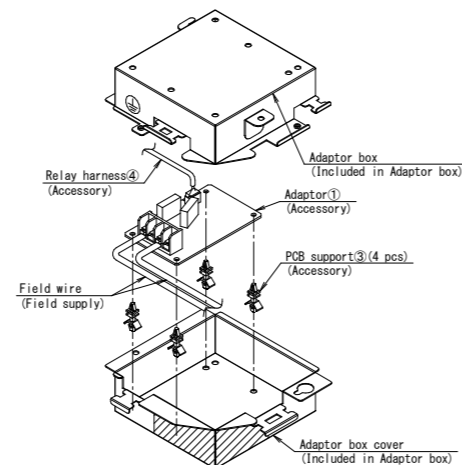

Figure 1
- (2) Mount the Adaptor① on the Adaptor box cover with the PCB supports③. (Figure 1)